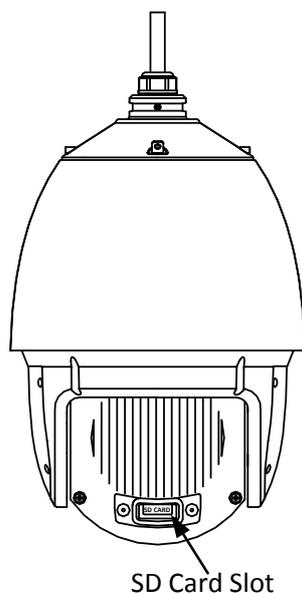

Figure 3-20 SD Card Slot
2. Remove the cover on the back of the speed dome as shown in Figure 3-20. Insert the SD card to the SD card slot and install the cover back.